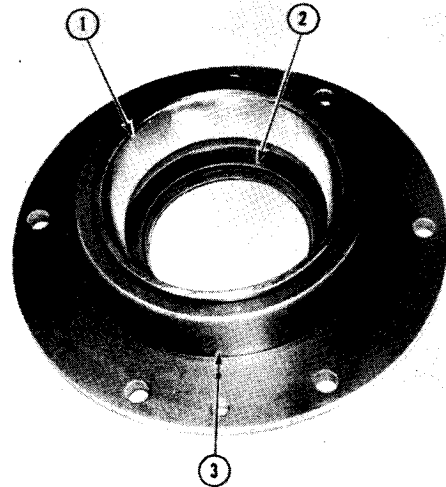

Figure 4-38
Remove and discard output shaft rear seal (2, Fig. 4-38) from bearing retainer (3). After inspection, bearing cup may be removed if replacement is required.